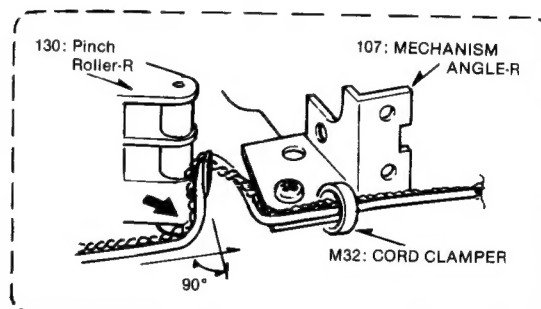

Fig. 2
3. Trace the record/playback head lead-wire as follows (Refer to Fig. 2.):
- At this time, hook the head wire to the clasper of the pinch roller R, and press the head wire in the direction of the arrow as shown in Fig. 2 so that it is bent approximately 90 degrees. Then secure the wire on the mechanism unit using a cord clasper.